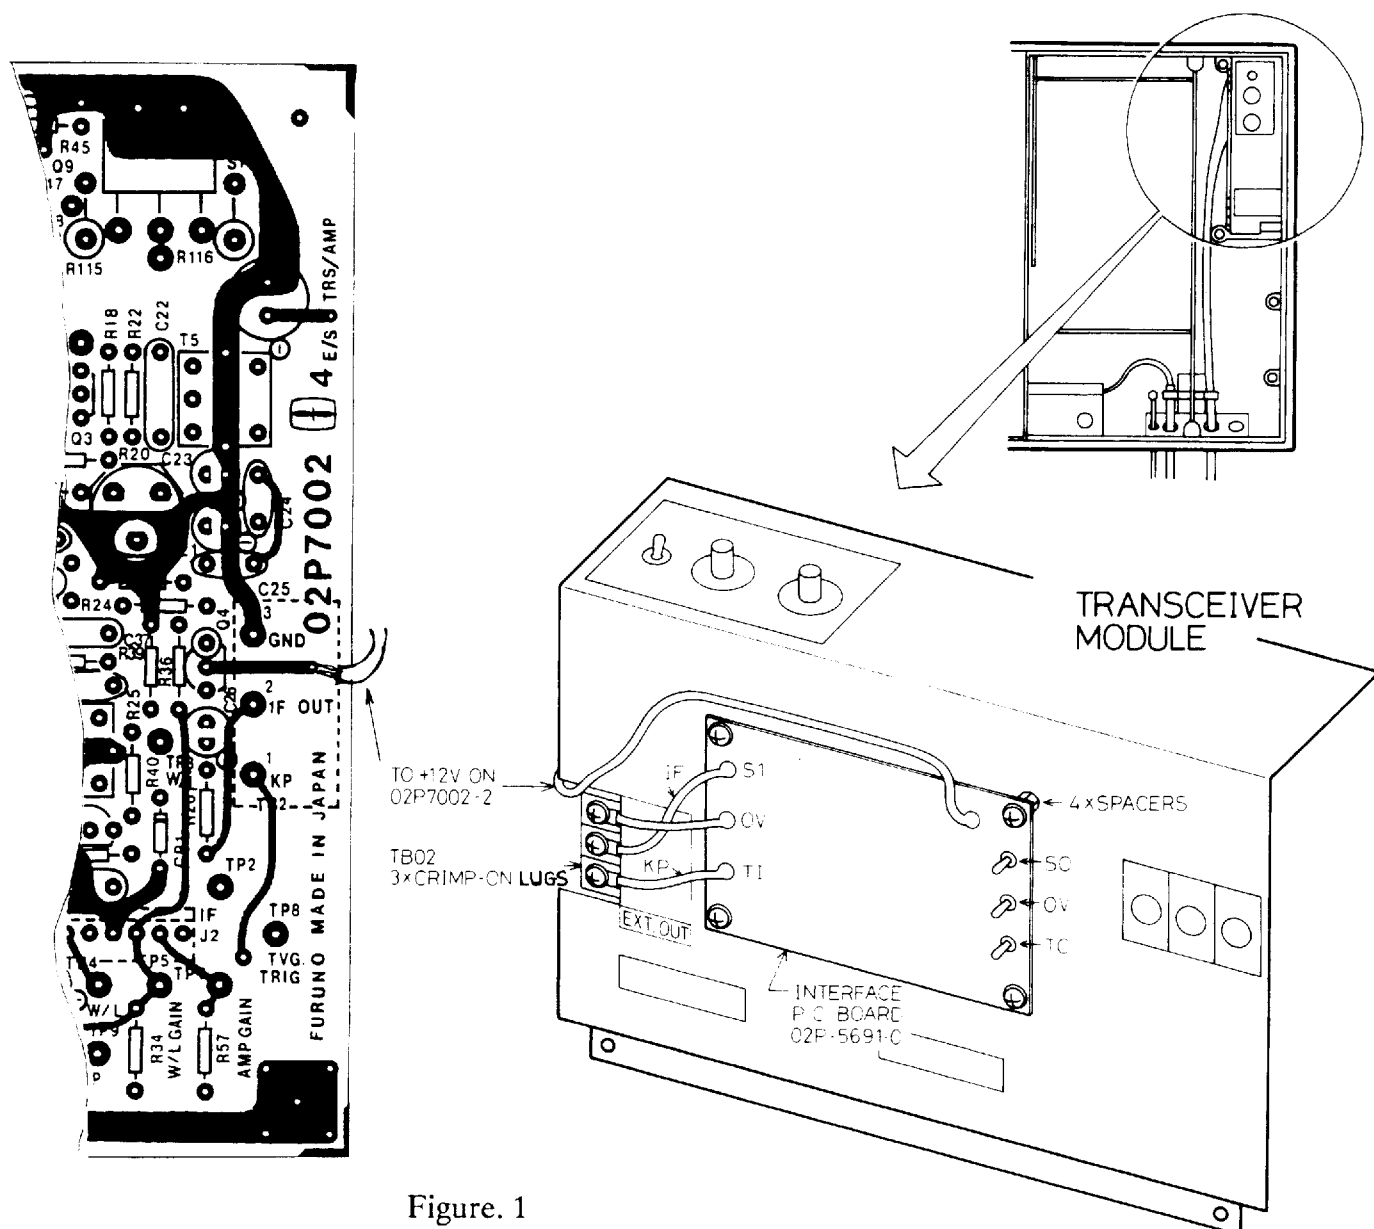

Figure. 1
- 2) Connect the lead wires as illustrated in figures 1 and 2.